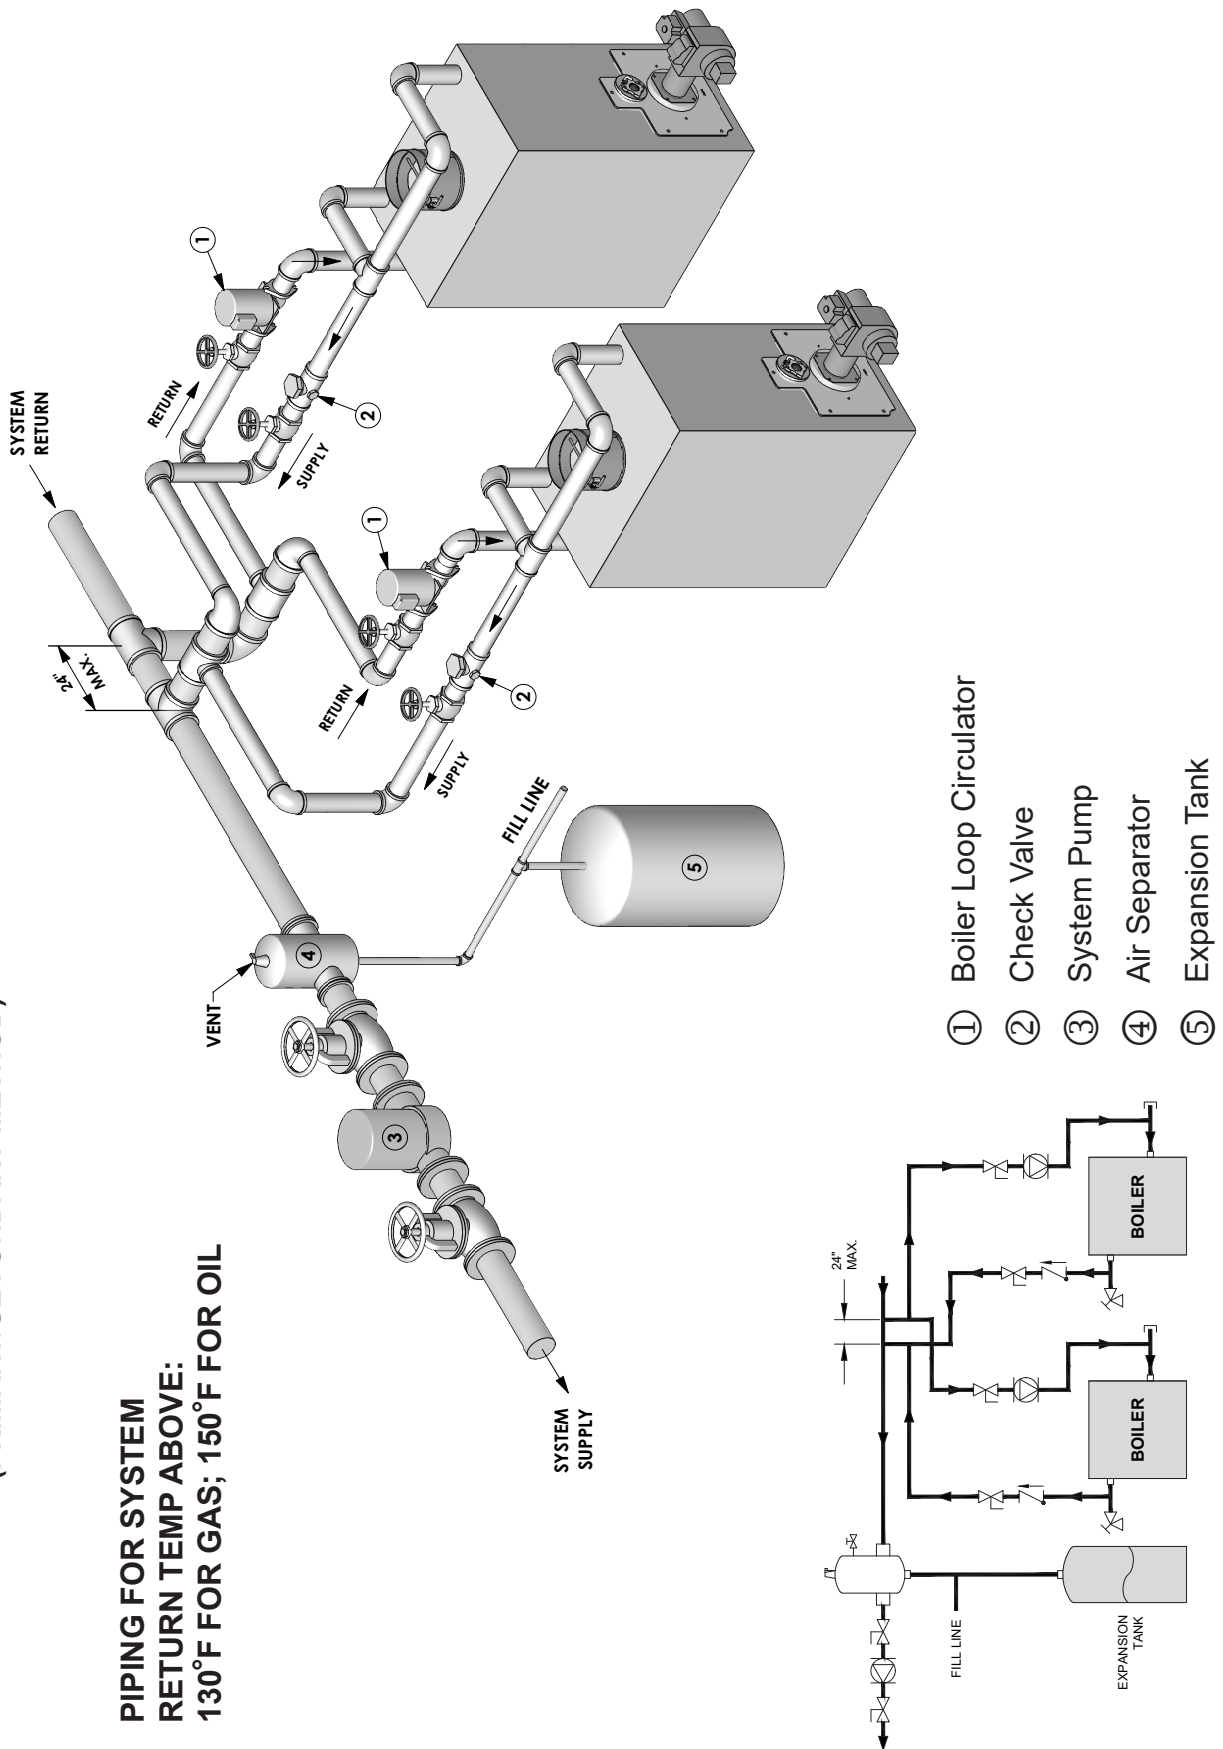

Figure 4.18: Multiple Boiler Piping, System Return Temperature Above 130°F on Gas, 150°F on Oil
1. For multiple boiler installations, piping the boilers in a primary/secondary loop is recommended. Each boiler should be provided with its own pump and piped off of the secondary loop header. See Figure 4.18 for systems with return temperatures above 130°F on gas boilers and 150°F on oil boilers. For variable low temperature systems, see Figures 4.16 and 4.17.